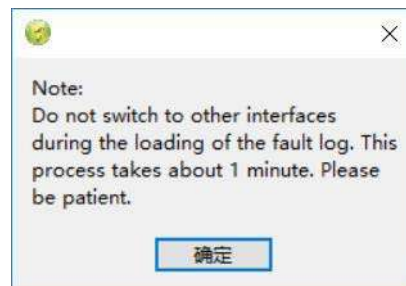

Figure 38. Reminder Dialog
Step2: Click the **Load Log** button, a message dialog will pop up, please click **OK**, as Figure 38.